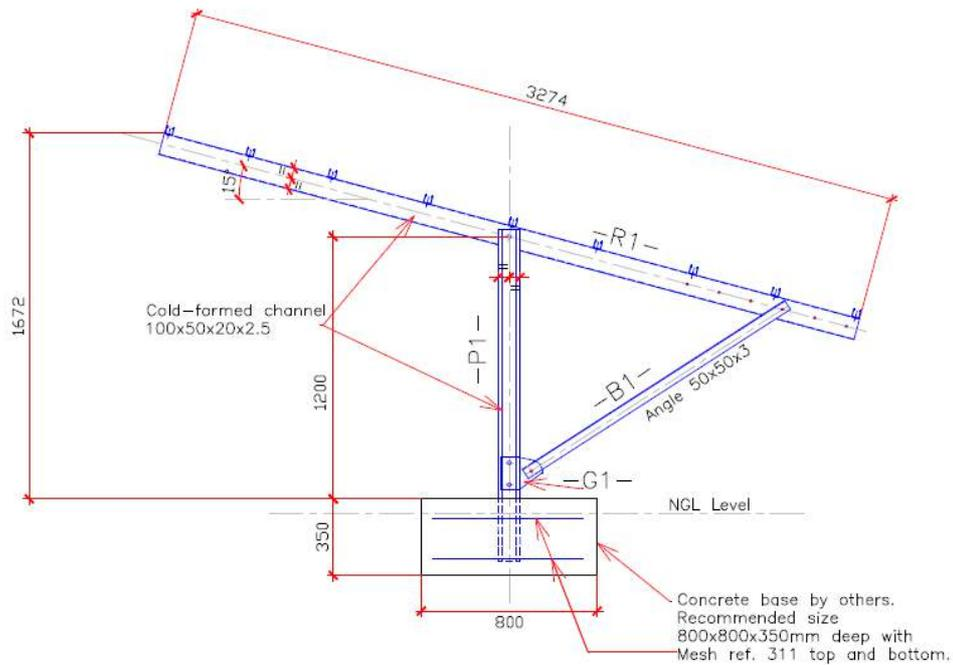

Fig. 2: General arrangement, cast in leg
Cast concrete as per arrangement in fig 4 and according to dimensions shown in figs. 2 and 3.
- i) **Cast in leg:** With reference to figure 2, install the vertical upright [P1] into the wet concrete. The pivot hole at the top of the channel should be approx. 1200mm above nominal ground level.